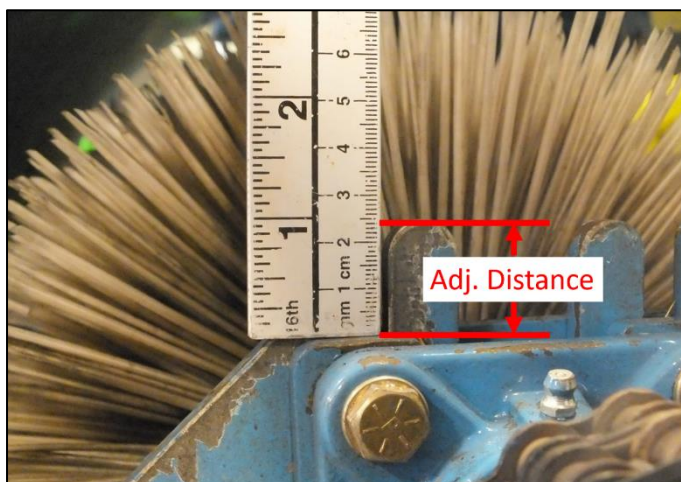

Figure 2: Harvester brush adj. prong side view.
Step 2: Using the harvester brush adjustment chart (Table 1) find the corresponding adj. distance for each side of the brush based on the bristle lengths found in Step 1. Using a ruler fine-tune the brush position (Fig. 2) following the suggested adjustment chart.